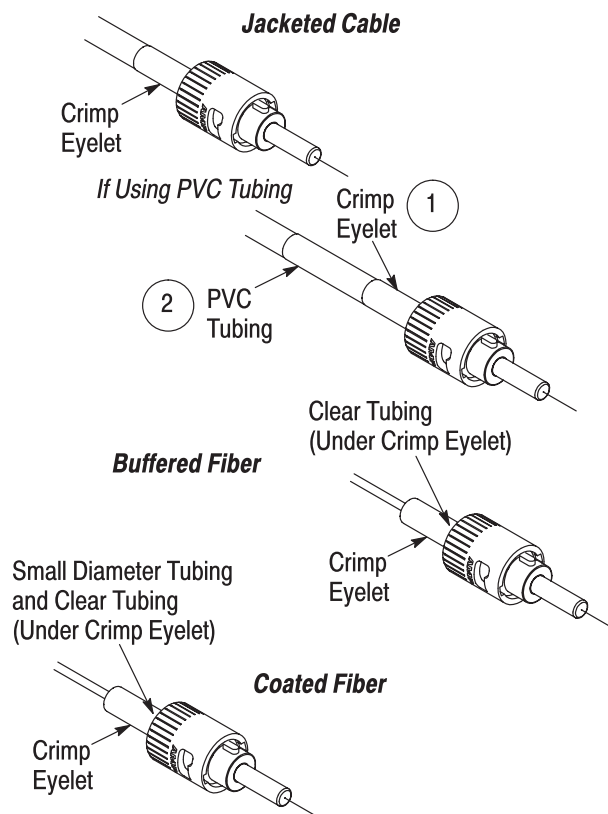

Figure 5
7. For jacketed cable, slide the crimp eyelet toward the connector until it contacts the connector shoulder, trapping the strength members against the knurled end. If using the PVC tubing, slide it under the crimp eyelet until it bottoms. See Figure 5.
For buffered fiber, slide the clear tubing against the back of the connector, then slide the crimp eyelet over the clear tubing and onto the connector. See Figure 5.
For coated fiber, slide the small diameter tubing and clear tubing against the back of the connector, then slide the crimp eyelet over the clear tubing and onto the connector. See Figure 5.
- Deleted artwork in Figures 5 and 6